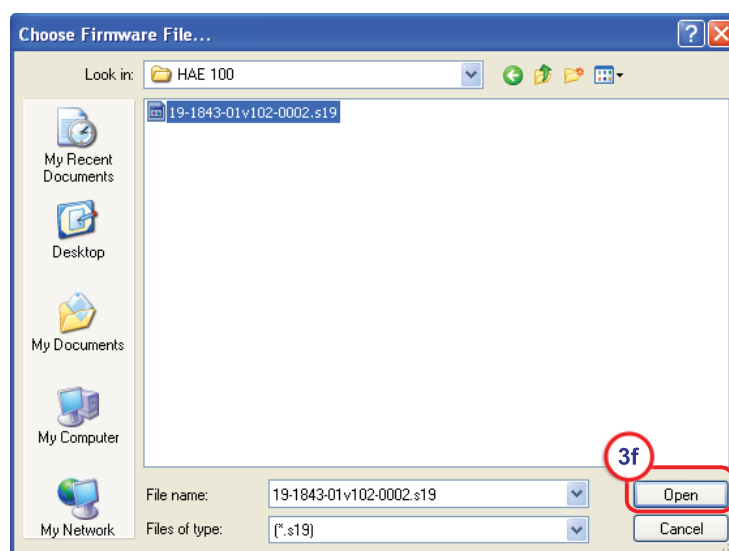

Figure 8. Choose Firmware File Window
- f. Navigate to the HAE 100 firmware file using the file browser. Select the file and click **Open** (see figure 8).